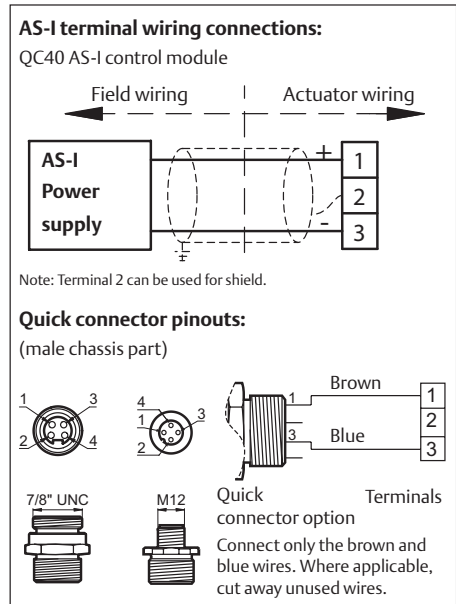

Fig. 4.3 Terminal connections and quick connector pinouts
- 3 Make the electrical connections as shown in Figure 4.3.